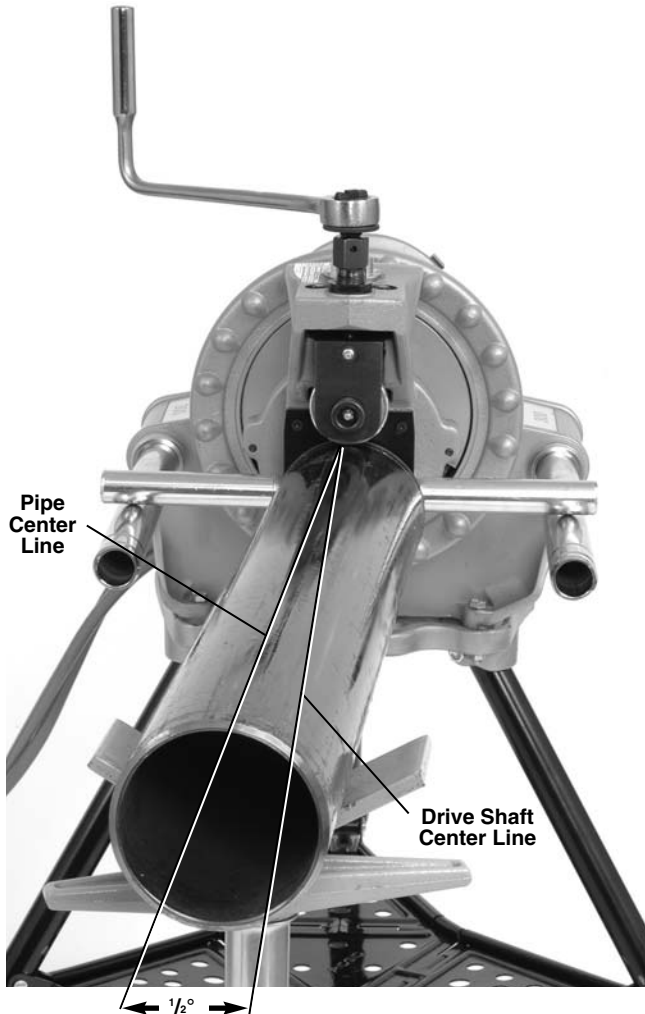

Figure 9 – Offsetting The Pipe $\frac{1}{2}^\circ$ Towards Operator (Exaggerated)
7. Slightly offset the pipe and pipe stands approximately $\frac{1}{2}$ degree (about 1" over at 10 feet from the roll groover) towards the operator. Proper alignment of the pipe and roll groover helps to insure proper tracking of the pipe while grooving. (See Figure 9.)
- Slightly increase the offset of the pipe towards the operator (increase from $\frac{1}{2}$ degree to 1 degree) (See Figure 9).